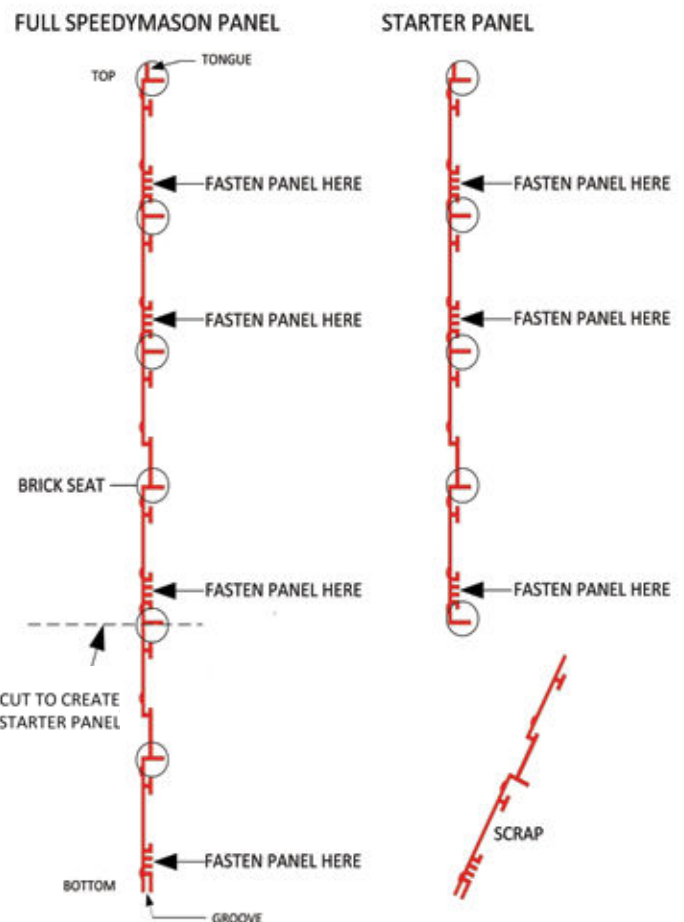

FIGURE 2
- Create a starter panel. **(See figure 2)**
- Fasten Brick Lath on the fastener strips. **(See figure 2)**
- Create a starter panel. **(See Figure 2)**
- Fasten Brick Lath on the fastening strips. **(See figure 2)**